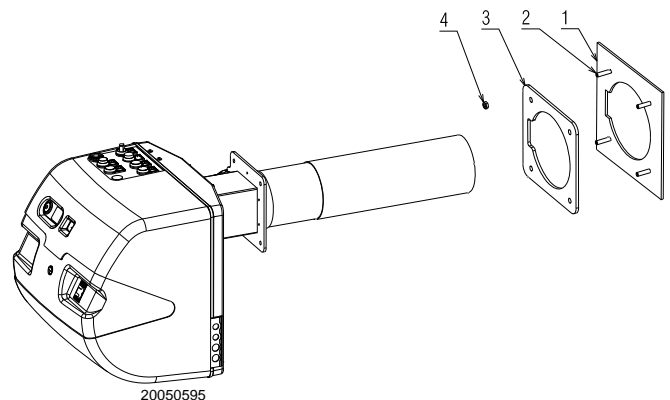

Fig. 17
- Warning: use a suitable sealant and check the gas seal (Fig. 17).